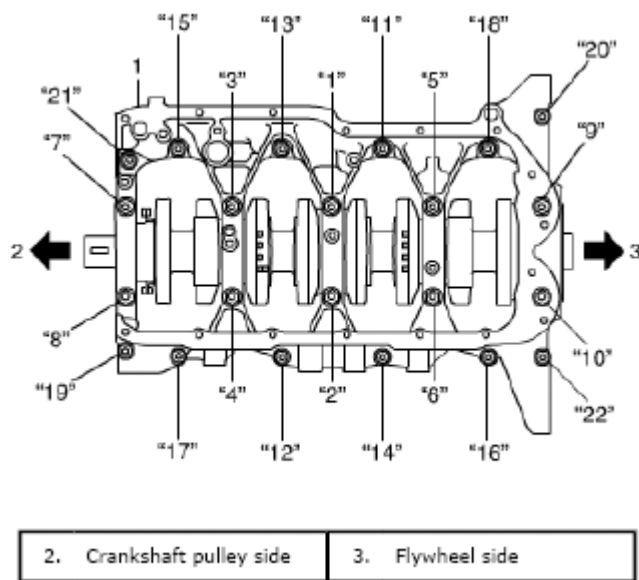

Fig. 178: Identifying Tightening Sequence Of Crankcase Bolts
- c. Tighten bolts ((1) - (10)) to 40 N.m (4.0 kgf-m, 29.0 lb-ft) according to numerical order in **Fig. 178**.
- d. In the same manner as in step c), retighten bolts ((1) - (10)) to 58 N.m (5.8 kgf-m, 42.0 lb-ft).
- e. Tighten bolts ((11) - (22)) to specified torque according to numerical order in **Fig. 178**.